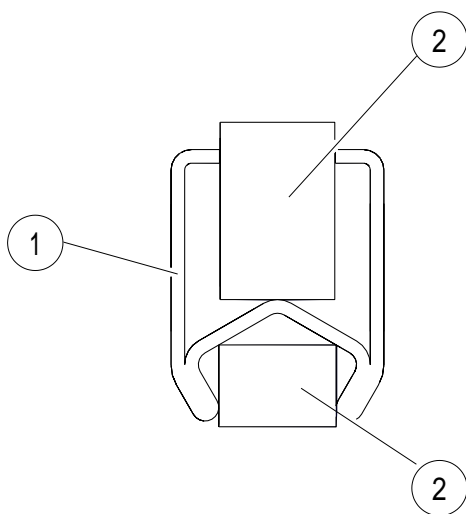

Fig. 1: Plastic insert (included in scope of supply)
- Use the plastic inserts provided (see Fig. 1) to counteract the deformation of the profile cross-section.